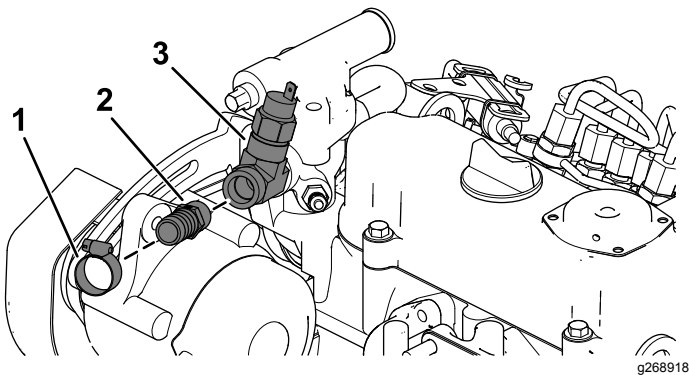

Figure 16
- D. Install the hose (3/8 inch) and adapter fitting (5/8 inch) with hose clamps (Figure 16).